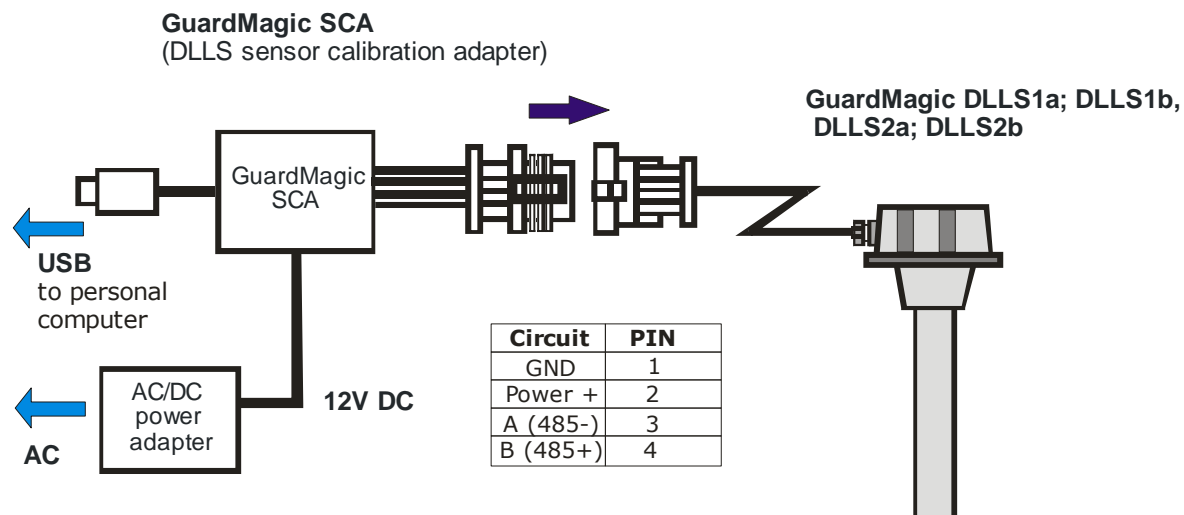

Figure 4-1: SCA Adapter connection with DLLS1a, DLSS1b, DLLS2a or DLLS2b
4.1. Connect SCA Adapter to Digital Fuel Sensor (DLLS) and PC accordingly with Figure 4-1 or Figure 4-2.